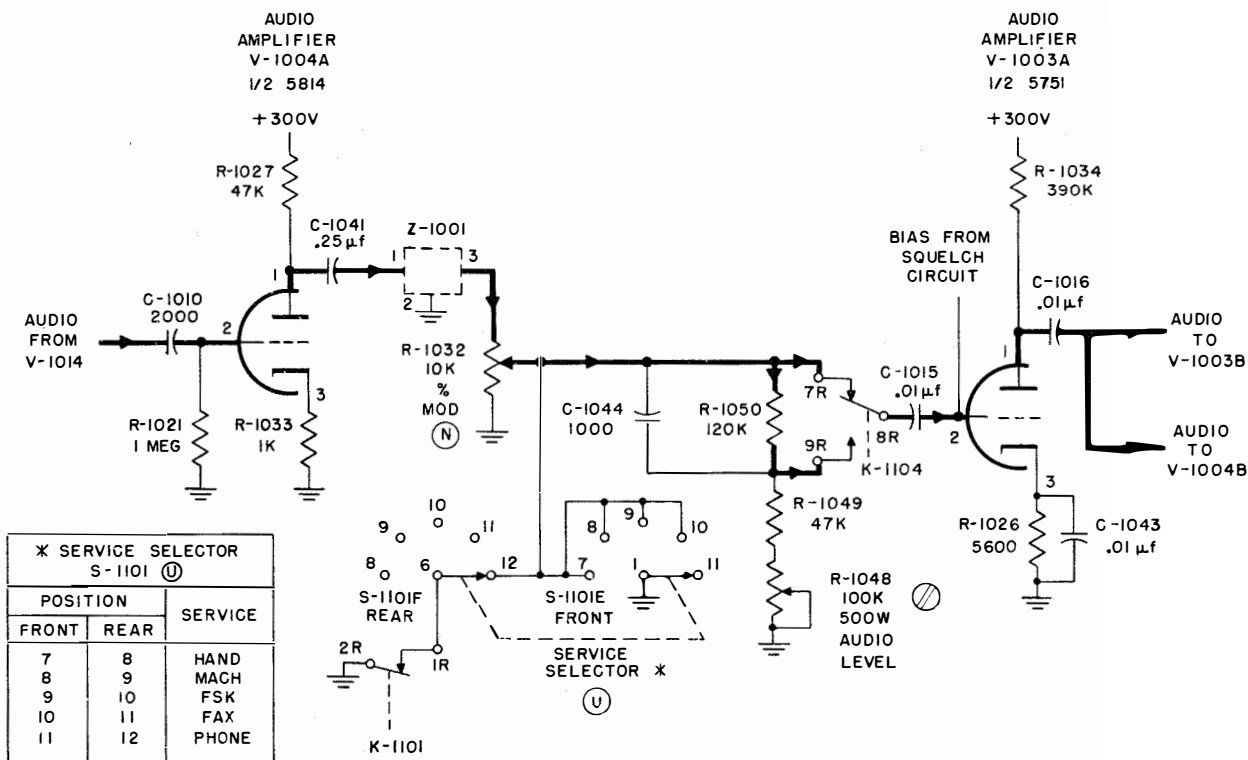

Figure 2-72. Audio Amplifiers V-1004A and V-1003A, Simplified Schematic
(4) AUDIO AMPLIFIERS V-1004A AND V-1002B.—The output of the clipper is coupled through capacitor C-1010 to audio amplifier V-1004A (figure 2-72), which amplifies the signal and couples it through capacitor C-1041 to band-pass filter network Z-1001, which passes frequencies in the range of 200 cps to 4,500